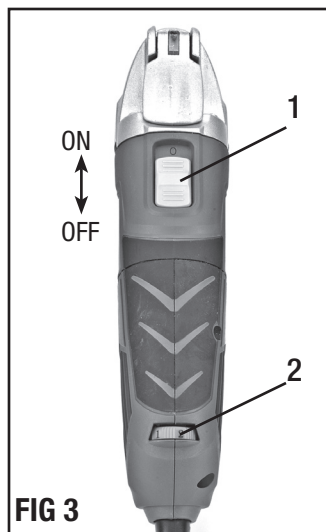

FIG 3
STARTING AND STOPPING THE OSCILLATING TOOL (FIG 3)
VARIABLE SPEED DIAL (FIG 3)
Your oscillating tool has a variable speed control dial (2) located at the rear end of the tool. See FIG 3. You may select the oscillating speed by rotating the control dial. Setting 6 is the maximum speed (22,000 OPM) and setting 1 is the minimum speed (15,000 OPM).